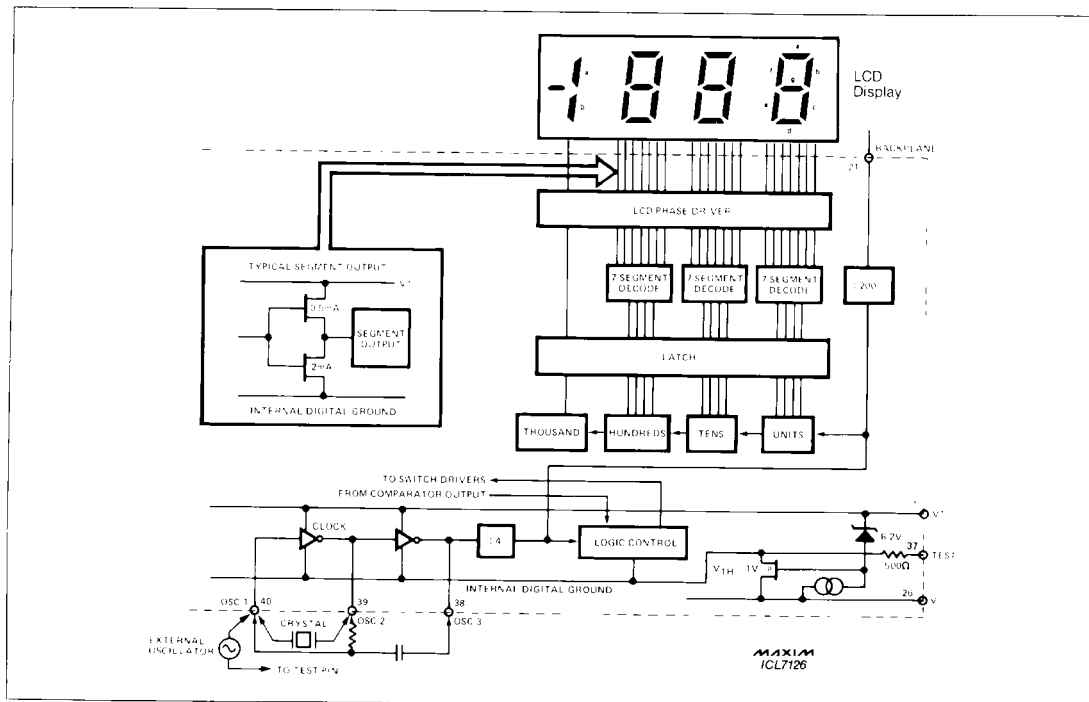

Figure 7. ICL7126 Digital Section
The digital section for the ICL7126 is illustrated in Figure 7. In Figure 7, an internal digital ground is generated from a 6V zener diode and a large P channel source follower. This supply is made stiff in effort to absorb the large capacitive currents when the back plane (BP) voltage is switched. The BP frequency is calculated by dividing the clock frequency by 800. For example, with a clock frequency of 48kHz (3 readings per second), the backplane will be a 60Hz square wave with a nominal amplitude of 5V. The segments are driven at the same frequency and amplitude. Note that these are out-of-phase when the BP is On and in-phase when OFF. Negligible dc voltage exists across the segments in either case.
The clocking circuitry for the ICL7126 is illustrated in Figure 7. Three approaches can be used: